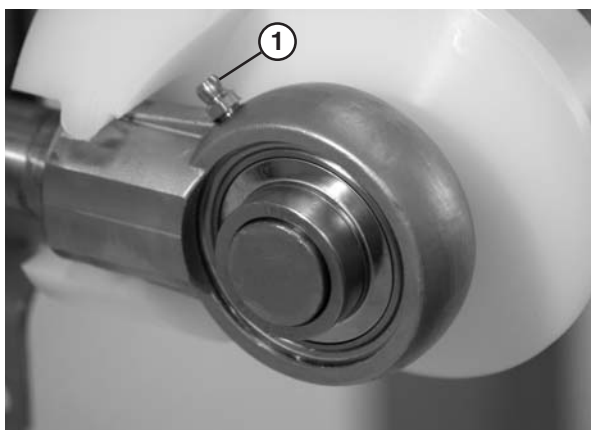

Figure 28
1. Add grease to the bearing using the zerk fitting (Figure 28, item 1) on the exterior of the bearing shaft assembly.